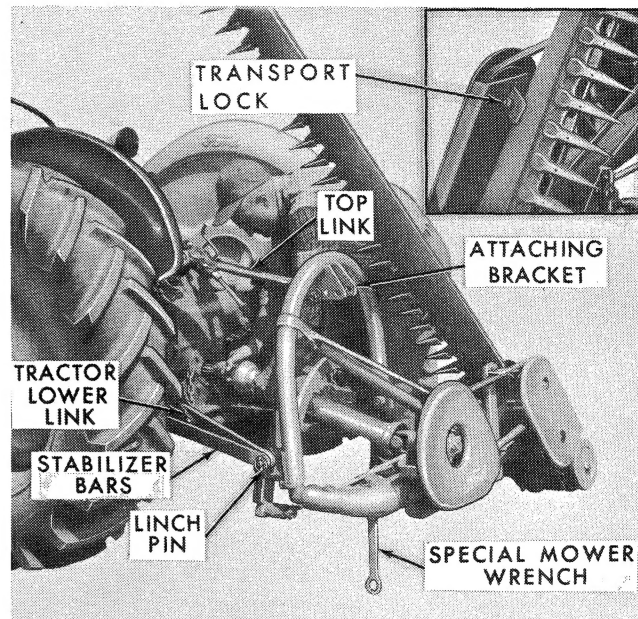

Figure 4
4. Position the stabilizers (if bar type) on the link pins and secure with linch pins as shown in Figure 4.
5. Attach the tractor top link to the mower attaching bracket with a link pin and secure in place with a linch pin. See Figure 4.
9. Depress the spring-loaded lock pin on the front universal joint of the P.T.O. and slide the joint on the tractor P.T.O. shaft, Figure 4, until the pin locks in the groove of the shaft.
11. Raise the mower, remove the wrench from the stand position, and install it in the transport position. See Figure 4.
1. Raise the cutter bar to the transport position and secure with the cutter bar transport lock, as shown in the Insert, Figure 4.
2. Position the special mower wrench in the lower frame, as shown in Figure 4. Then, lower the mower with the tractor hydraulic control lever until the mower is resting on the wrench.
4. Depress the spring-loaded lock pin on the front universal joint of the P.T.O. and slide the joint off the tractor P.T.O. shaft, as shown in Figure 4.
6. Detach the top link, Figure 4, from the mower attaching bracket.
7. Detach the stabilizer bars and tractor lower links, Figure 4, from the mower.
To fix the mower in the transport position, disengage the tractor P.T.O. and raise the cutter bar by hand to its vertical position, shown in Figure 4.
Secure the cutter bar in the transport position by rotating the transport lock over the cutter bar, as shown in the Insert, Figure 4. Then, hydraulically raise the mower to obtain sufficient ground clearance, as shown in Figure 8. Place the transport lock in the transport position on tractors not equipped with a live-action hydraulic system.